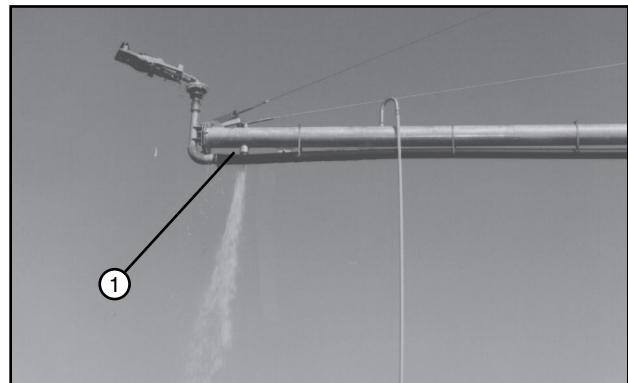

Figure 106-3 1. Sand Trap
5. Remove plugs from the overhang drains. Clean sand and foreign particles from these drains. Turn the rubber drain seal over when reinstalling. See Figure 106-3.